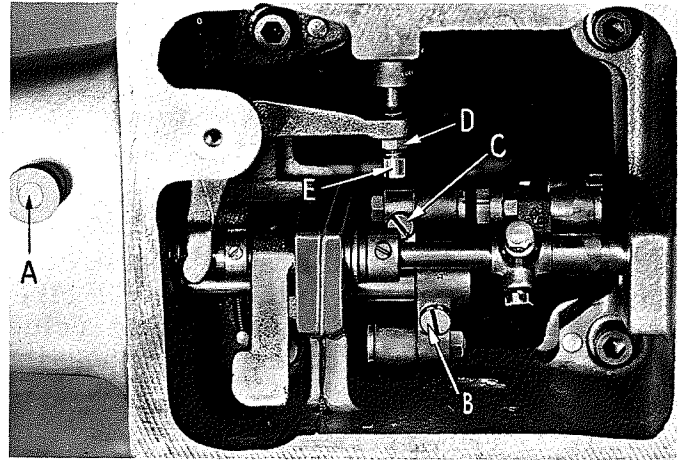
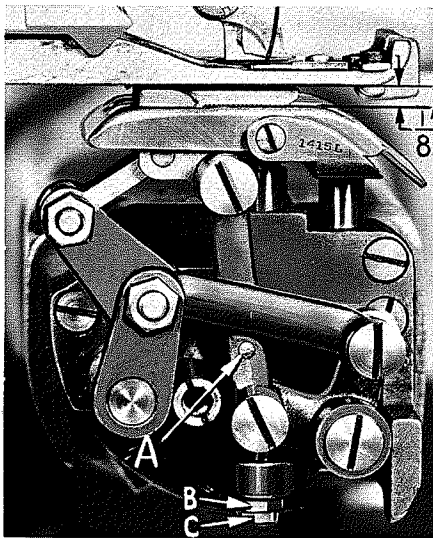
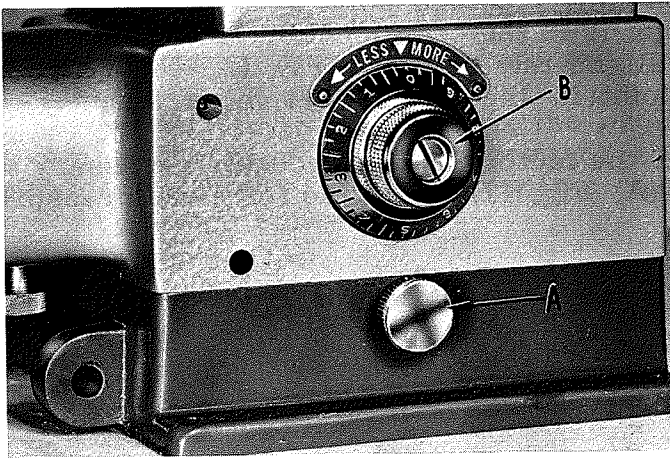
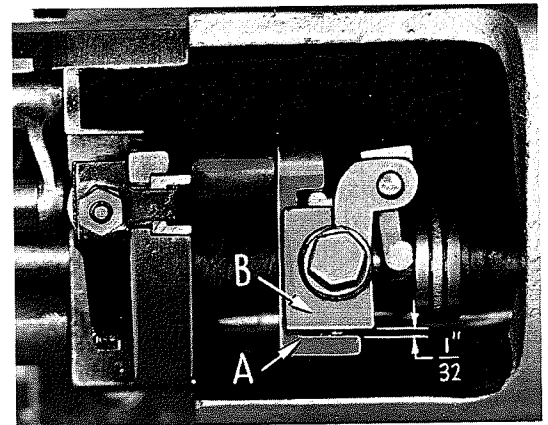

Fig. 11
Fig. 12
Fig. 13
Fig. 14
The feed plate pressure is adjusted at the factory. If it becomes necessary to change the pressure, turn knurled screw (A, Fig. 11) clockwise for more pressure and counterclockwise for less.
Turn the handwheel in operating direction until the feed point reaches its highest position and the feed plate reaches its lowest position. At this point, there should be $1/8$ inch space between the top of the feed plate and the bottom of the presser foot (Fig. 12). To obtain this adjustment, loosen the machine base locking screw (A, Fig. 13) and lay the machine on its back. Then, loosen screw (B, Fig. 11) and hold link (A, Fig. 12) so that the feed point is pressed up against the bottom of the presser foot. Turn the handwheel in operating direction until the feed point reaches its most forward position, and retighten screw (B, Fig. 11).
Turn the handwheel in operating direction until the feed point first touches the presser foot. At this point, the front edge of the feed point should be aligned with the front edge of the knurling on the feed plate. To make this adjustment, loosen screw (C, Fig. 11), and by means of link (A, Fig. 12), move the feed point forward or backward as required. Retighten screw (C, Fig. 11). If, in this adjustment, the feed point has to be moved an appreciable distance, repeat the adjustment "Setting The Feed Point Height" in the previous instructions.
The height of the plunger is adjusted by turning the knob (B, Fig. 13) clockwise to raise the plunger and counterclockwise to lower it. To provide for the maximum plunger adjustment, there should be $1/32$ inch clearance between plunger crank (A, Fig. 14) and the plunger block (B) when the adjusting knob (B, Fig. 13) is turned clockwise as far as it will go. Note that there are pins which stop the knob (B) after each complete revolution. The knob may be pulled out toward the operator to lift it over the stop. The knob can make three complete revolutions. To make the $1/32$ inch adjustment, turn the knob clockwise as far as it will go. Loosen locknut (D, Fig. 11) and turn screw (E) in the required direction. Retighten nut (D). Setting is correct when the needle, on its stroke to the right, just clears
the top of the plunger, with the adjusting knob in the maximum clockwise position. If after initial setting, further adjustment of height is necessary, it can be accomplished by turning nut (B, Fig. 12) and locknut (C) up or down as required. Check the adjustment so that the needle does not strike the plunger.